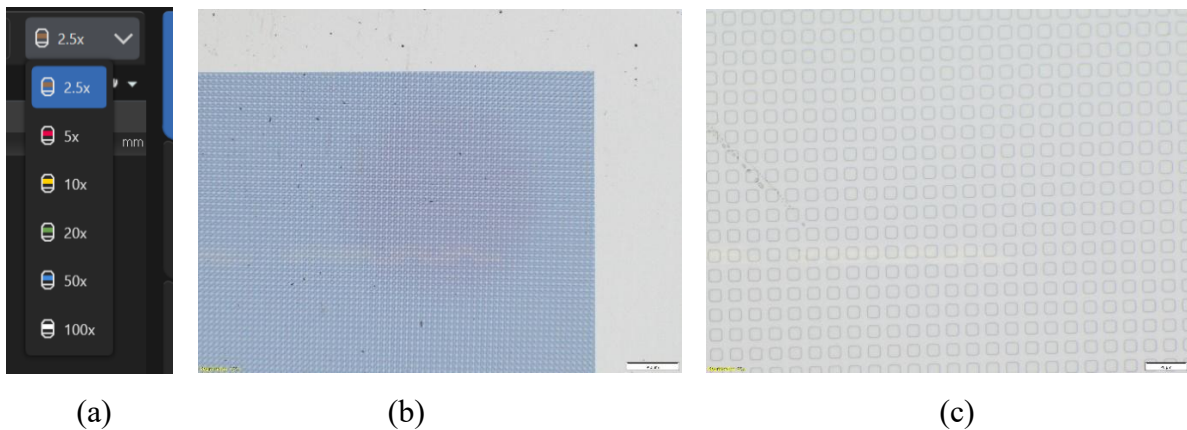

Figure 9. (a) Software Magnification Adjustment, (b) Image at 2.5X Magnification, and (c) Image at 50X Magnification
13. Magnification can be changed either through the software (Figure 9(a)) or by using the objective selection buttons (Figure 3, #2). After each adjustment, ensure the sample remains properly focused and there is enough space between the stage plate and the objective lenses. Figure 9 shows example images at two magnifications: (b) 2.5X and (c) 50X.